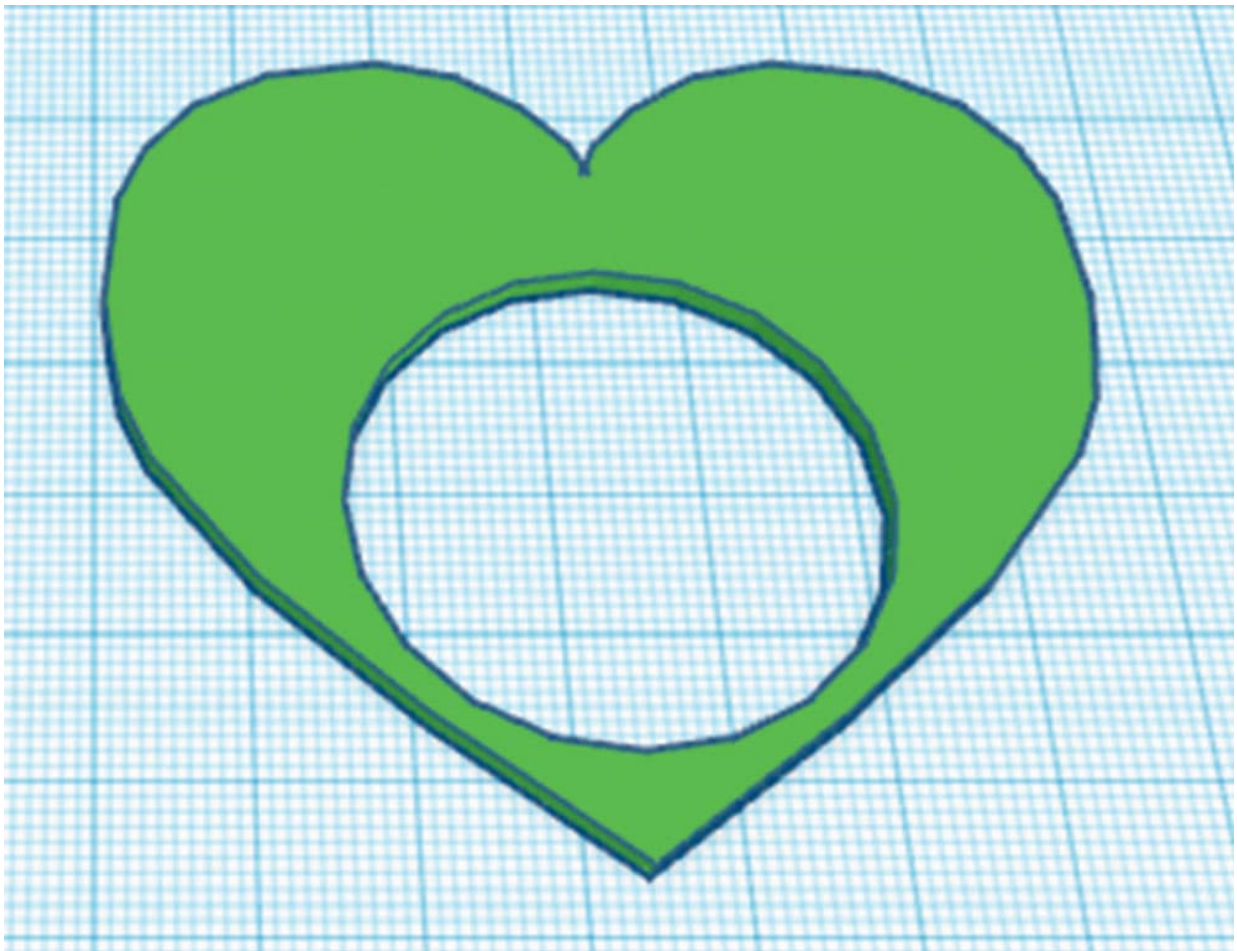

FIG. 8: *Create a large hole in the solid heart.*
3. Make a hole in this shape as big as possible following steps 2 through 5 shown here. No need to rotate it for the earring (fig. 8).